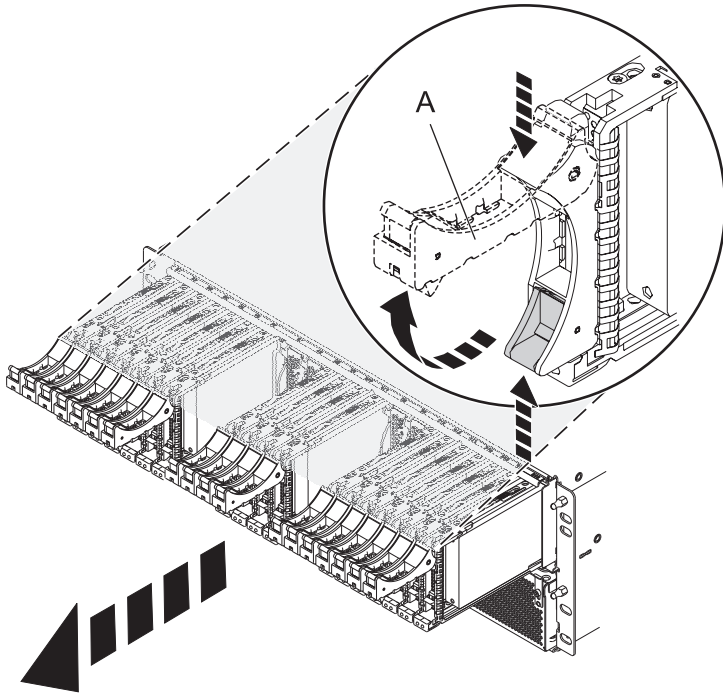

Figure 1. Removing the disk drives from the disk drive backplane
8. Remove the disk drives and fillers from the disk drive backplane in the 5802 expansion unit as shown in Figure 1 on page 4.